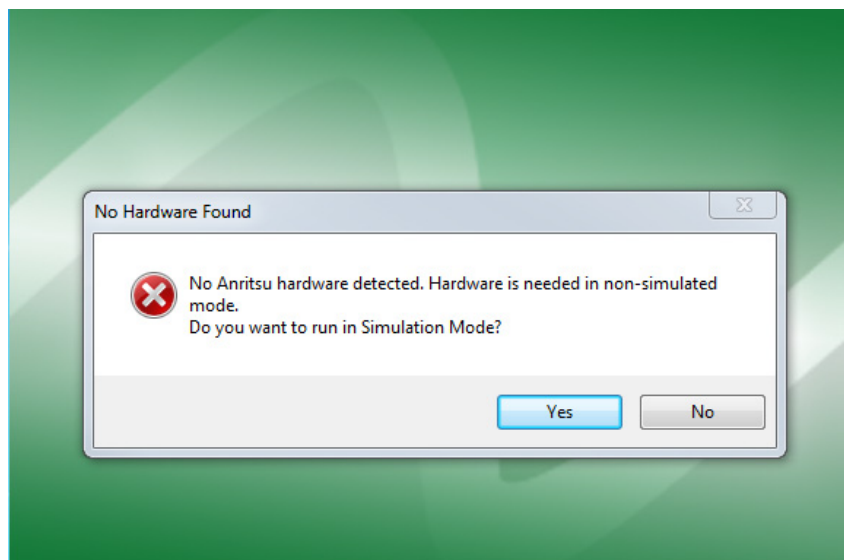

Figure 3-6. ShockLine GUI Initialization Screen
2. From the NO HARDWARE FOUND dialog box, Figure 3-6, select YES to run in Simulation Mode.